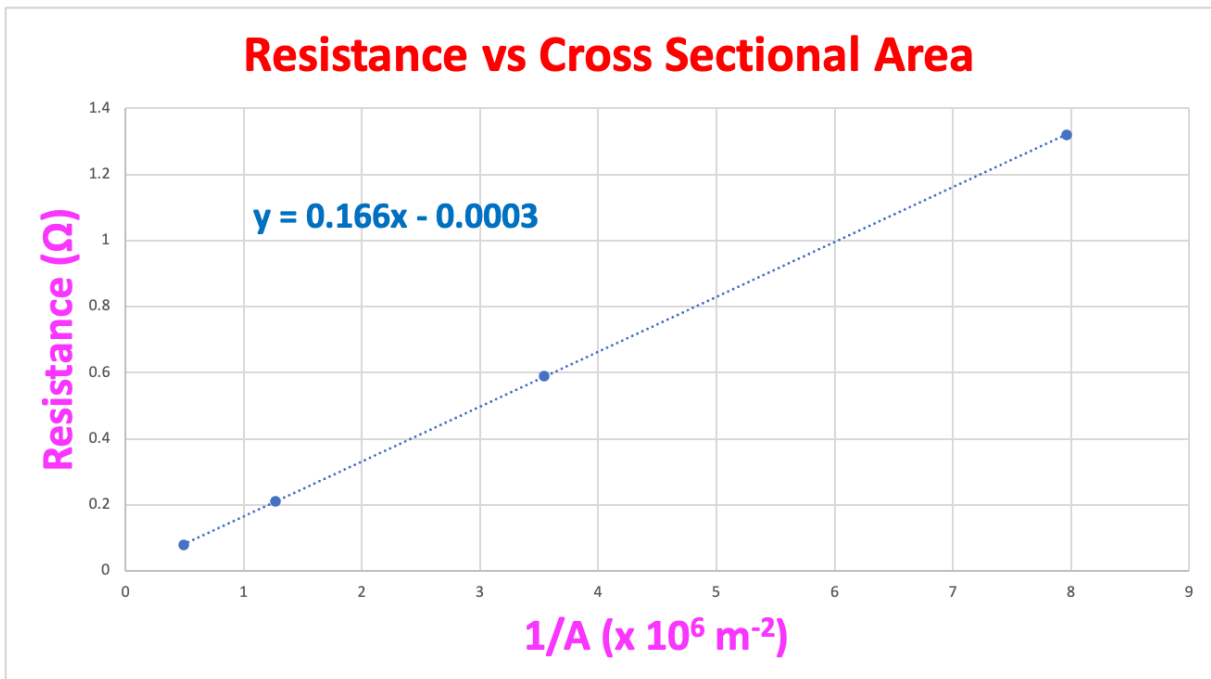

Figure 2: Example graph of Resistance versus Cross Sectional Area.
1. Using your results from Table 4, create a scatter graph of Resistance (Ω) on the Y-axis versus $1/A$ ($\times 10^6 m^{-2}$) on the X-axis. Label the x-y axes including units and Title your graph: Resistance vs Cross Sectional Area. See Figure 2 for an example graph. Calculate the slope of the line. What is the physical meaning of the slope?